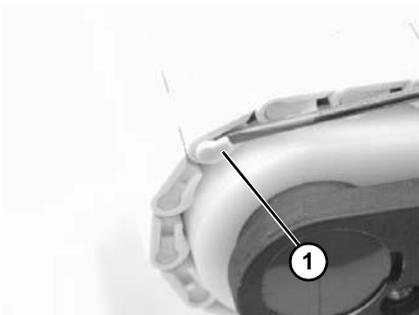

Figure 43
1. Choose one link on the idler end of chain to remove endcaps. With a 3/32" (2.4 mm) flat blade screwdriver, pry under tab of end caps (Figure 43, item 1) and remove end cap. Repeat for opposite side of conveyor.